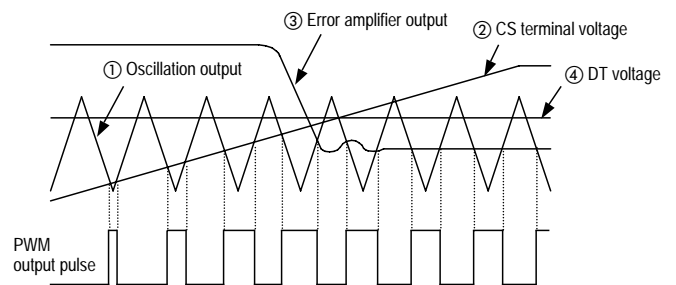

Fig. 5
While the preferred voltage is lower than the oscillator output, the PWM comparator output is Low. While the preferred voltage is higher than the oscillator output, the PWM comparator output is High (Fig. 5). When the IC starts, the capacitor connected to the CS terminal is charged through the resistor connected to the power supply, and then the output pulses begin to widen gradually as the operation of soft start.
In steady operation, the pulse width is determined based on the voltage of the error amplifier ③, and then the output voltage is stabilized. The Dead Time control voltage (④ DT voltage) of FA7700 and FA7701 has different characteristics to adjust the ICs to various types of power supply circuits being controlled and also to reduce external discrete components as many as possible. FA7700 is developed for fly-back circuits, and boost circuits, and the DT voltage is set in the IC so that the maximum output duty cycle is fixed to 80% min.. (Maximum output duty cycle changes according to operation frequencies. —See page 6 “Maximum output duty vs. temperature”.) It prevents magnetic saturation of the transformer or the like when a short-circuit in the output circuit occurs. FA7701 is developed for buck circuits, and it is designed for the maximum output duty cycle of 100%. The timing chart of PWM comparator is described in Fig. 5.